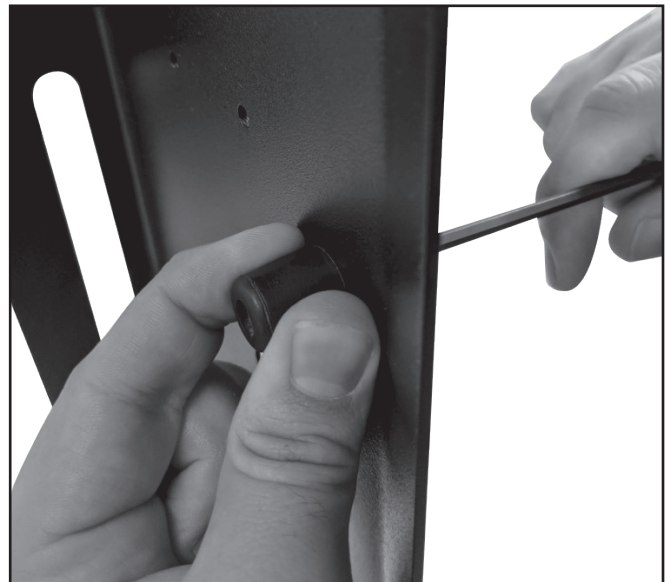

Figure 2: Installing bumpers
- 4** Install the rubber bumpers onto the hornet light bracket using the included 8-32 bolts and nuts. Using the 9/64" Allen, set the nuts inside the bumper and squeeze to tighten onto the bracket as a socket will not fit inside the counter bore as seen in Figure 2.
- 6** At this point, install the hornet light on to the mounting bracket using the 10-32 nuts and bolts. This will require the 1/8" Allen and the 3/8" wrench. (Figure 2)